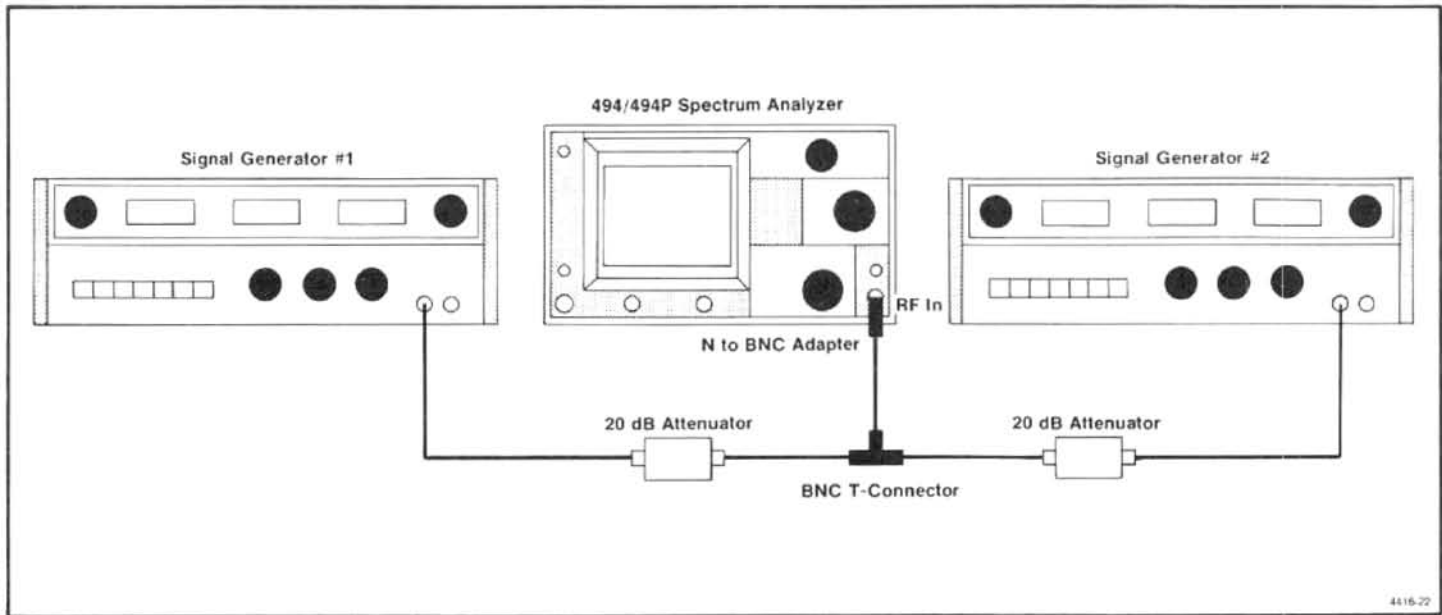

Figure 4-15. Test equipment setup for checking intermodulation distortion.
a. Equipment setup is shown in Figure 4-15. Set the FREQ SPAN/DIV to 5 MHz, RESOLUTION BANDWIDTH to 100 kHz, REF LEVEL to -30 dBm, and FREQUENCY
b. Apply two signals, from two 50 Ω sources, that are separated about 2 MHz and within the frequency range of band 1. Apply the signals through 20 dB attenuators (for isolation), a bnc "T" connector, and bnc-to-n adapter, to the RF INPUT (see Figure 4-15).